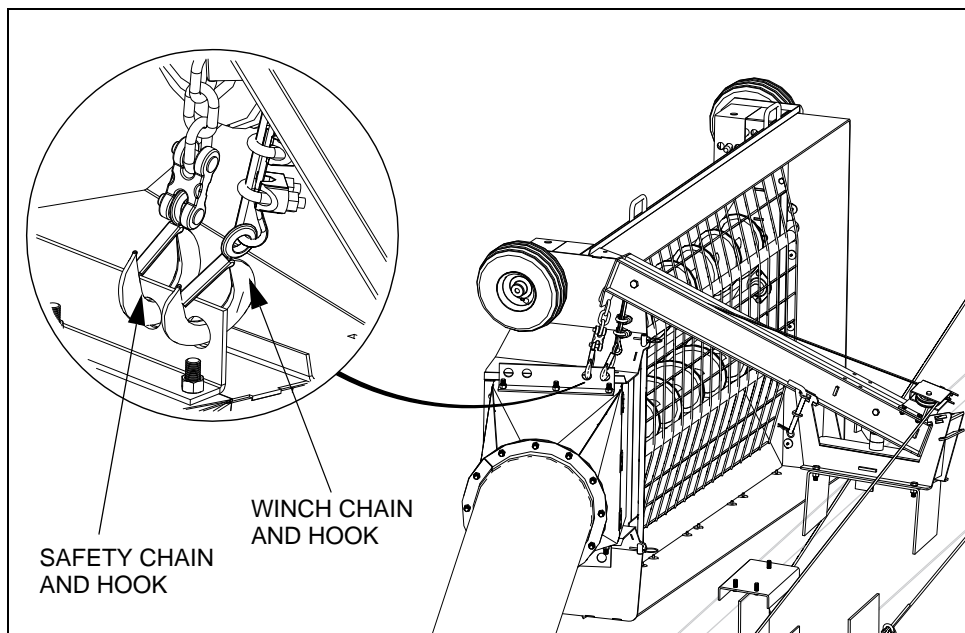

Figure 3.40 Transport Position, Safety Chain and Winch Hook
7. To place hopper into transport position, attach cable hook to hook on the hopper transition, then fully raise hopper with intake side facing main auger. Secure hopper to lift arm by connecting the safety chain (Figure 3.40) to the hopper cable attach bracket.